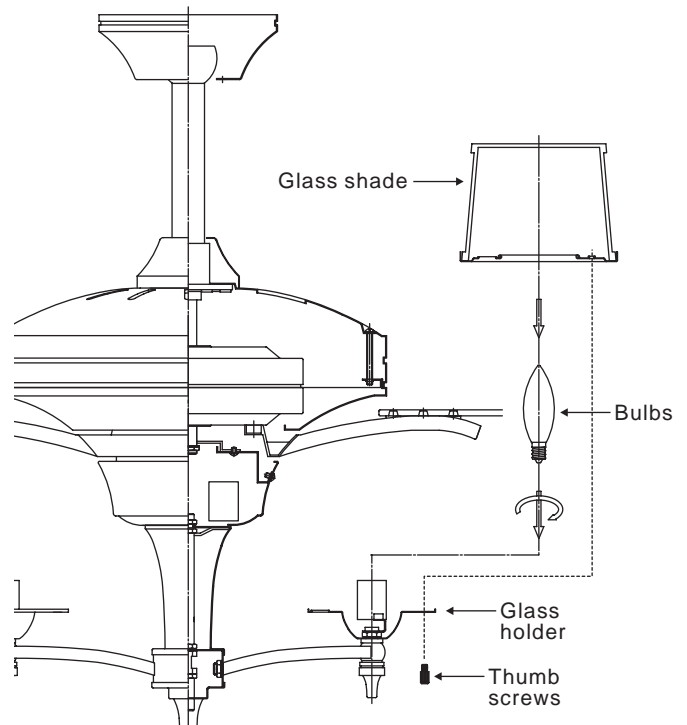

Figure 17
1. Remove the thumb screws from the bottom of the glass shade. Insert the 4 candelabra light bulbs (not included) into the light kit sockets. Max. 40 watts. (Fig. 17)
2. Install the glass shades onto the glass holder with two thumb screws previously removed. Be sure to tighten all screws. (Fig. 17)